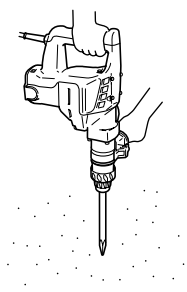

Fig. 4
2. How to chisel or demolish (Fig. 4)